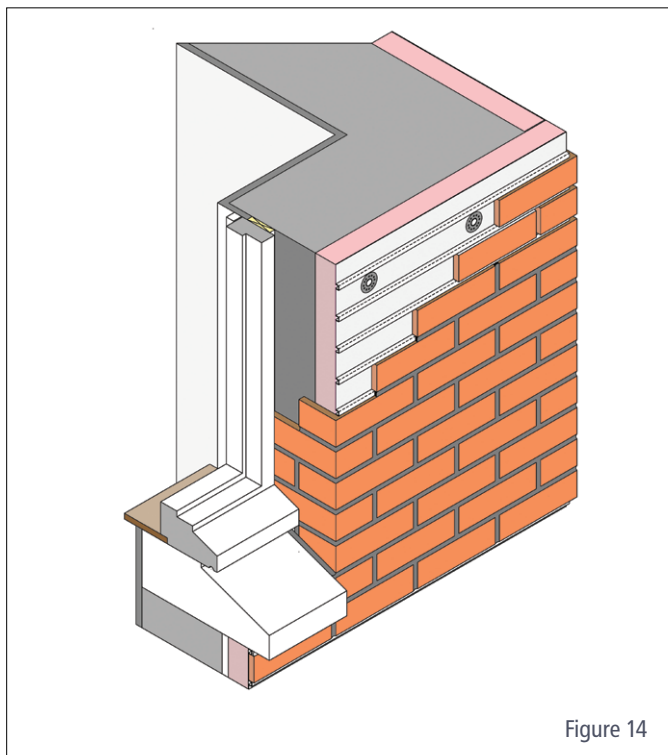

Figure 14
**MASONRY:** Brick may be attached directly to the masonry surface. To install brick, apply a bead of adhesive under the top edge of the brick track on the panel and onto the surface of the reveal. Push corner brick into the brick track. See Figure 14.